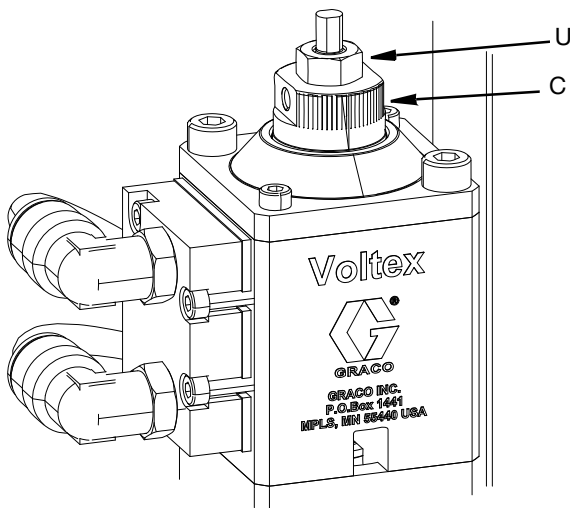

FIG. 26
1. Loosen lock nut (U) on top of the valve.
2. Turn the adjustment nut (C) counterclockwise to reduce the distance the valve opens.
3. Slowly open the adjustment nut (C) and then cycle the air pressure until the desired flow is reached.
4. Tighten the lock nut (U) to hold the adjustment nut (C) in place. See FIG. 26.